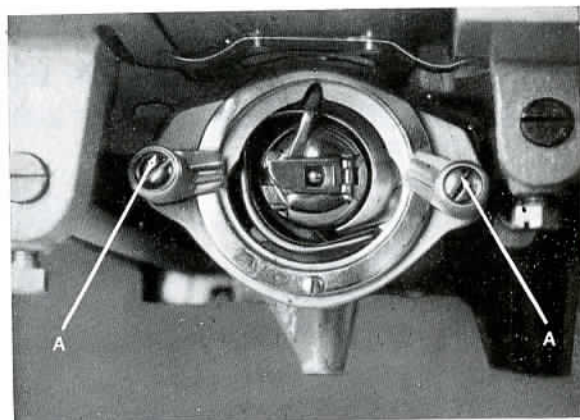

Fig. 9
2. Release the KNOBS (A) on both side of the shuttle race by pulling the knobs aside, then take the outside ring and the shuttle body with your fingers. (Fig. 9, 10)